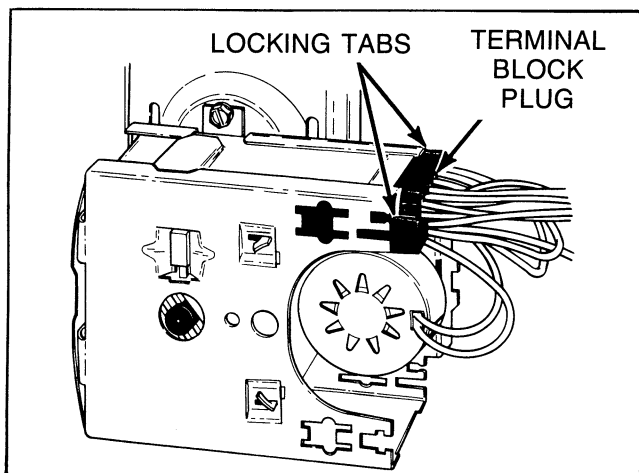

Figure 7
- Disengage wire harness terminal block plug from the timer by pressing in on the movable locking tabs (located on each side of the terminal block plug) and pulling plug away from timer, Figure 7.